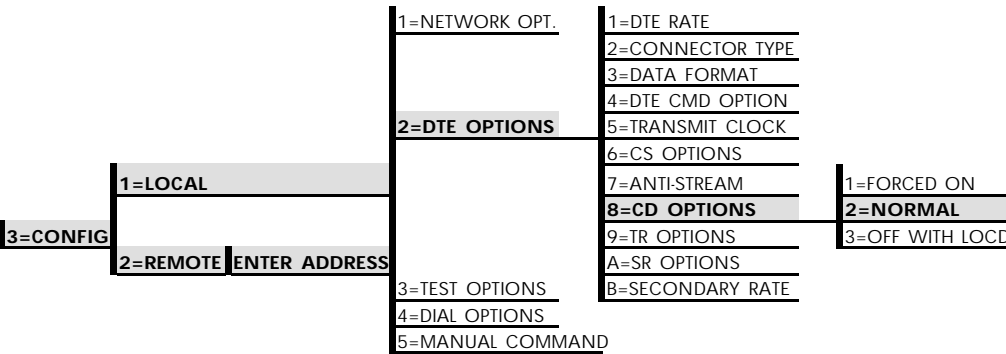

Figure 6-9
The CD OPTIONS menu is used to select one of three different control modes for the receive line signal detector (CD) lead. The default factory setting is **NORMAL** (see Figure 6-9).